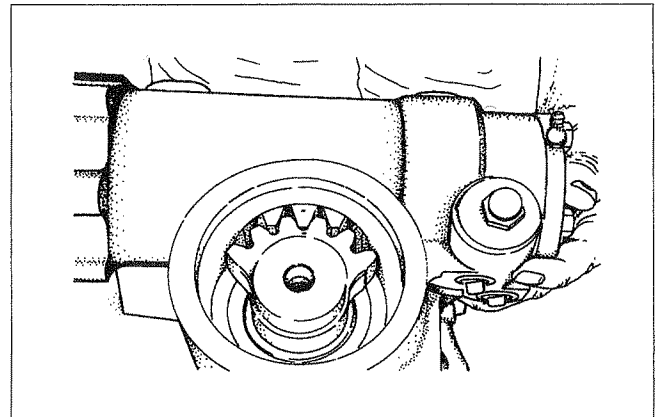

Figure 32
3. Install the sector shaft (Figure 32).